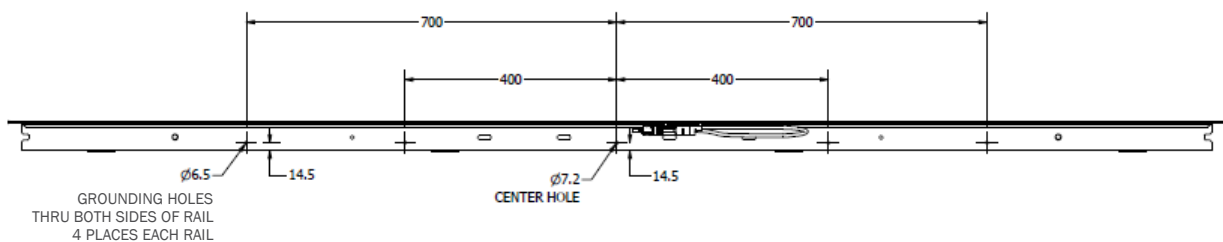

Figure 11: Grounding Hole Dimensions
- The use of common grounding hardware (such as lugs, clips, nuts, bolts, split-ring lock washers, flat washers and the like) to attach grounding/bonding device must be in conformance with the grounding device manufacturer's instructions. Figure 11 below indicates locations of grounding holes for S7 TR1.